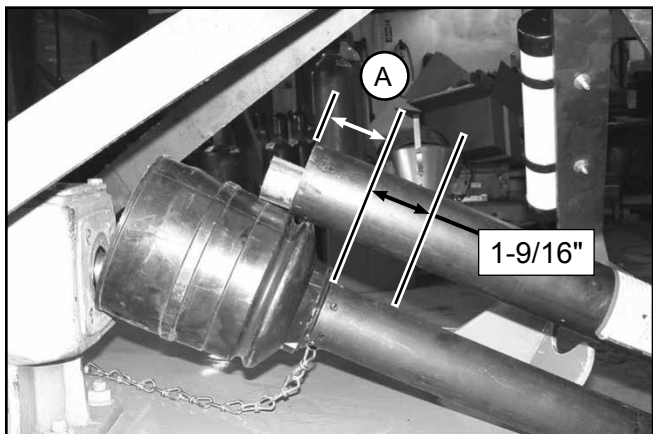

Figure 14. Determine Shield Length
5. Measure from end of the upper shield to the base of the bell on the lower shield (A). Add 1-9/16" to dimension (A). See Figure 14.